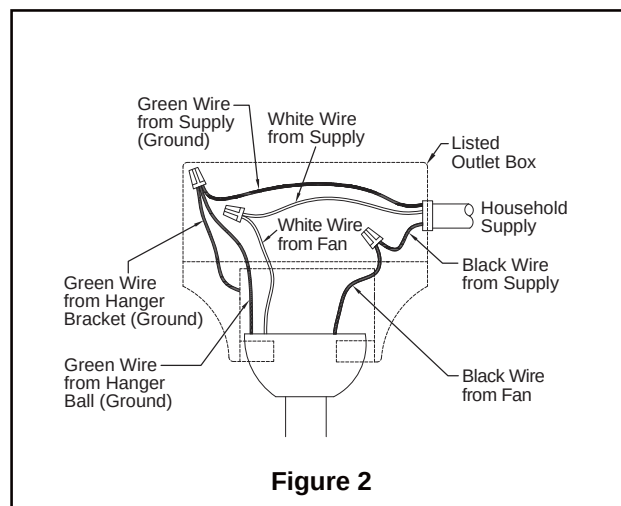

Figure 2
1. Connect the green grounding lead from the downrod/hanger ball assembly and the green grounding lead from the hanger bracket to the supply grounding conductor (this may be a bare wire or wire with green colored insulation). Securely connect wires with wire connectors. Securely connect the white fan motor wire to the white supply (neutral) wire using wire connector. Securely connect the black fan motor wire to the black supply wire using wire connector (Figure 2).